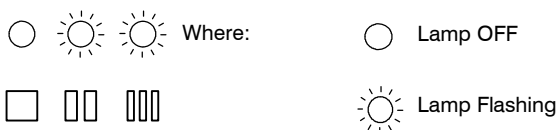

Fig. 9.12
- 2 Turn ON the power supply. Lamps E give the indication as in Fig. 9.12.